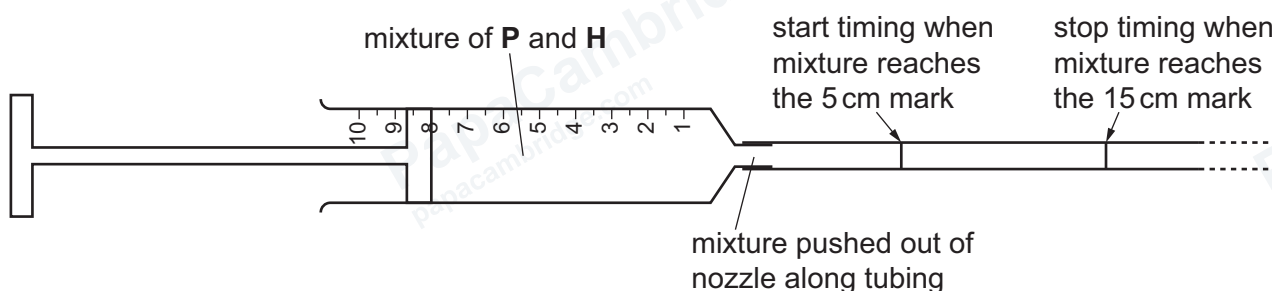

Figure 1.4
step 12 Put the tubing onto the nozzle, as shown in Figure 1.4.